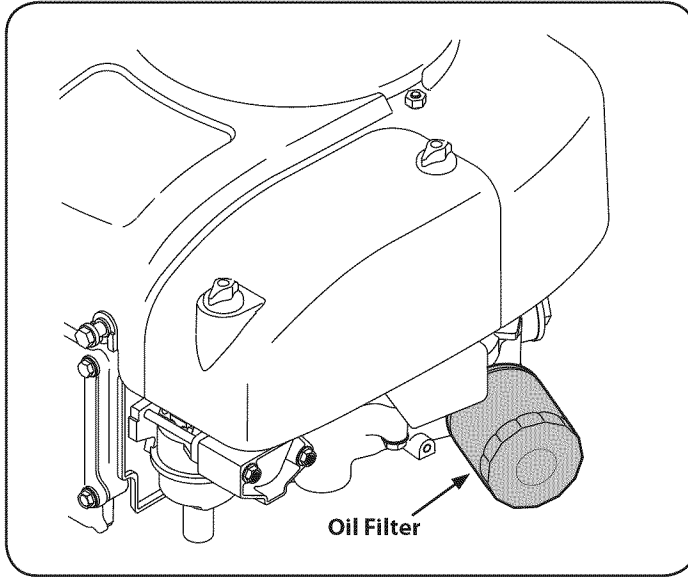

Figure 11
9. Replace the oil filter, see Figure 11, by removing and disposing of it properly.